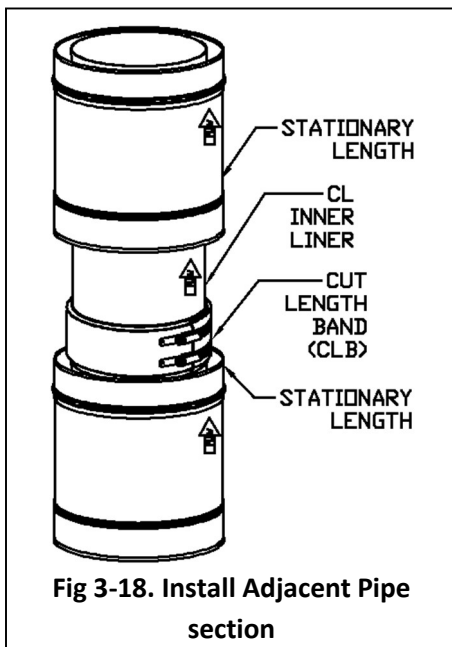

Fig 3-18. Install Adjacent Pipe section
10. Install next adjoining pipe section. Refer to AF Joint Assembly Section. (See Fig 3-18).